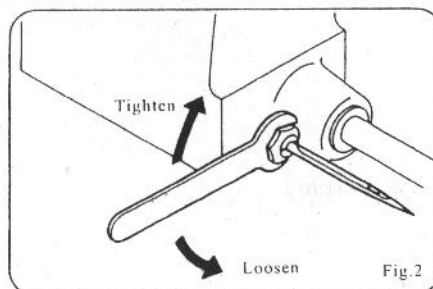

Fig. 2
2. Needle Setting (Fig. 2, 3, 4)